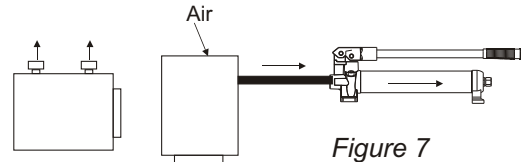

Figure 7
Removing air from the hydraulic system will help the cylinder to advance and retract smoothly .(Figure 7)
- 3.Position cylinder with the plunger end down (up if using pull cylinder). See Figure 7.
- 4.Operate pump to fully extend the cylinder (retract if using pull cylinder). See Figure 7.
- 3.Put cylinder in horizontal position with ports up. See Figure7.
- 3.Remove air from system if necessary. See Figure 7. Recheck oil or water level after removing air.